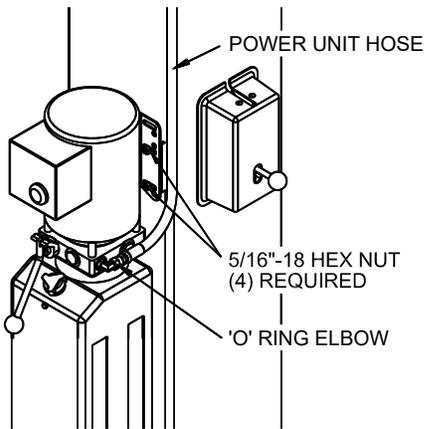

Fig. 12 – Power Unit Mounting
27) Mount power unit to power column as shown in Fig. 12. The mounting hardware, (4) 5/16" -18 hex nuts, are pre-installed on power unit mounting bracket.
- 31) Thread 9/16-18 O-ring elbow (*in hardware box*) into power unit. Attach free end of power unit hose to elbow. See **Fig. 12**. CAUTION do not damage rubber O-ring.